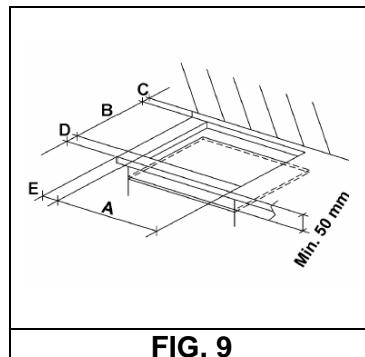
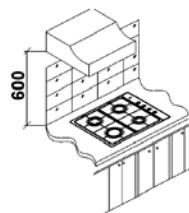

FIG. 9
FIG. 10
The measurements of the opening made in the top of the modular cabinet and into which the hot plate will be installed are indicated in either fig. 9. Always comply with the measurements given for the hole into which the appliance will be recessed (see fig. 10).
- In order to avoid accidental touch with the overheating bottom of the hob, during the working, is necessary to put a wooden insert, fixed by screws, at a minimum distance of 50 mm from the top (see fig. 9)